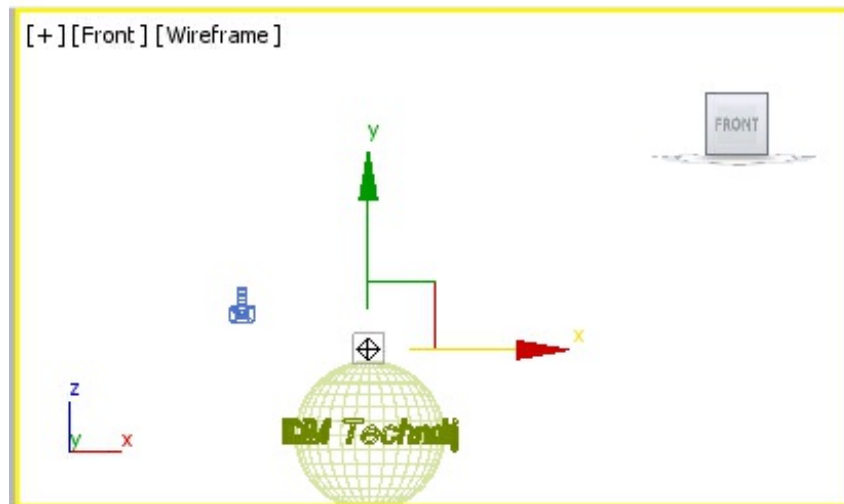

Figure 14-55 The omni light aligned just above the wireframe earth sphere
17. In the Front viewport, select the omni light that is placed just above the *wireframe earth sphere*. Align it to the top of *wireframe earth sphere*, as shown in Figure 14-55. Next, add the **Lens Effects** as described above and set the parameters of different effects in the **Environment and Effects** dialog box as follows: